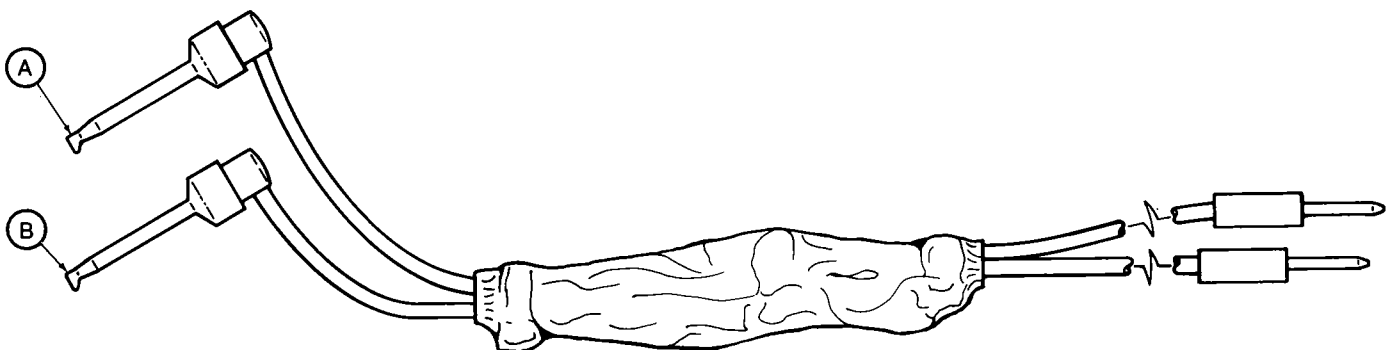

Fig. B-8. Assembly, step 5.
- Slide a 2-inch length of $\frac{1}{2}$ -inch heat shrink tubing over capacitor and then shrink the tubing. See Fig. B-8.